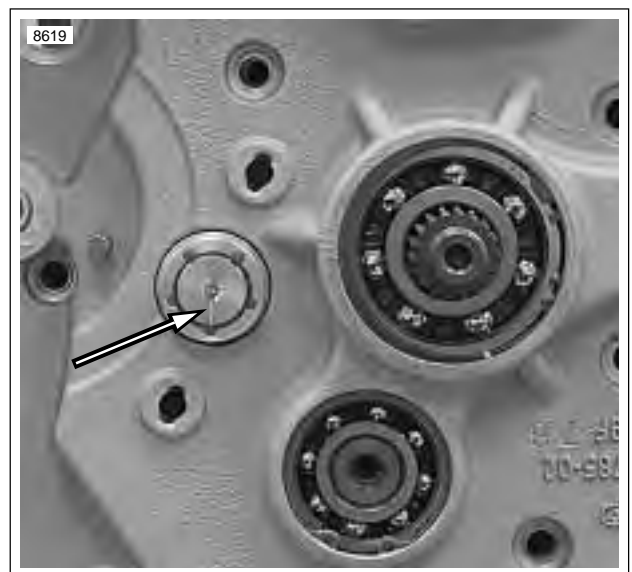

Figure 6-46. Scribed Line on Shifter Drum at 6 O'clock (Transmission in 4th Gear)
15. See Figure 6-46. Place transmission in 4th gear. The scribed line should now be at the 6 o'clock position.